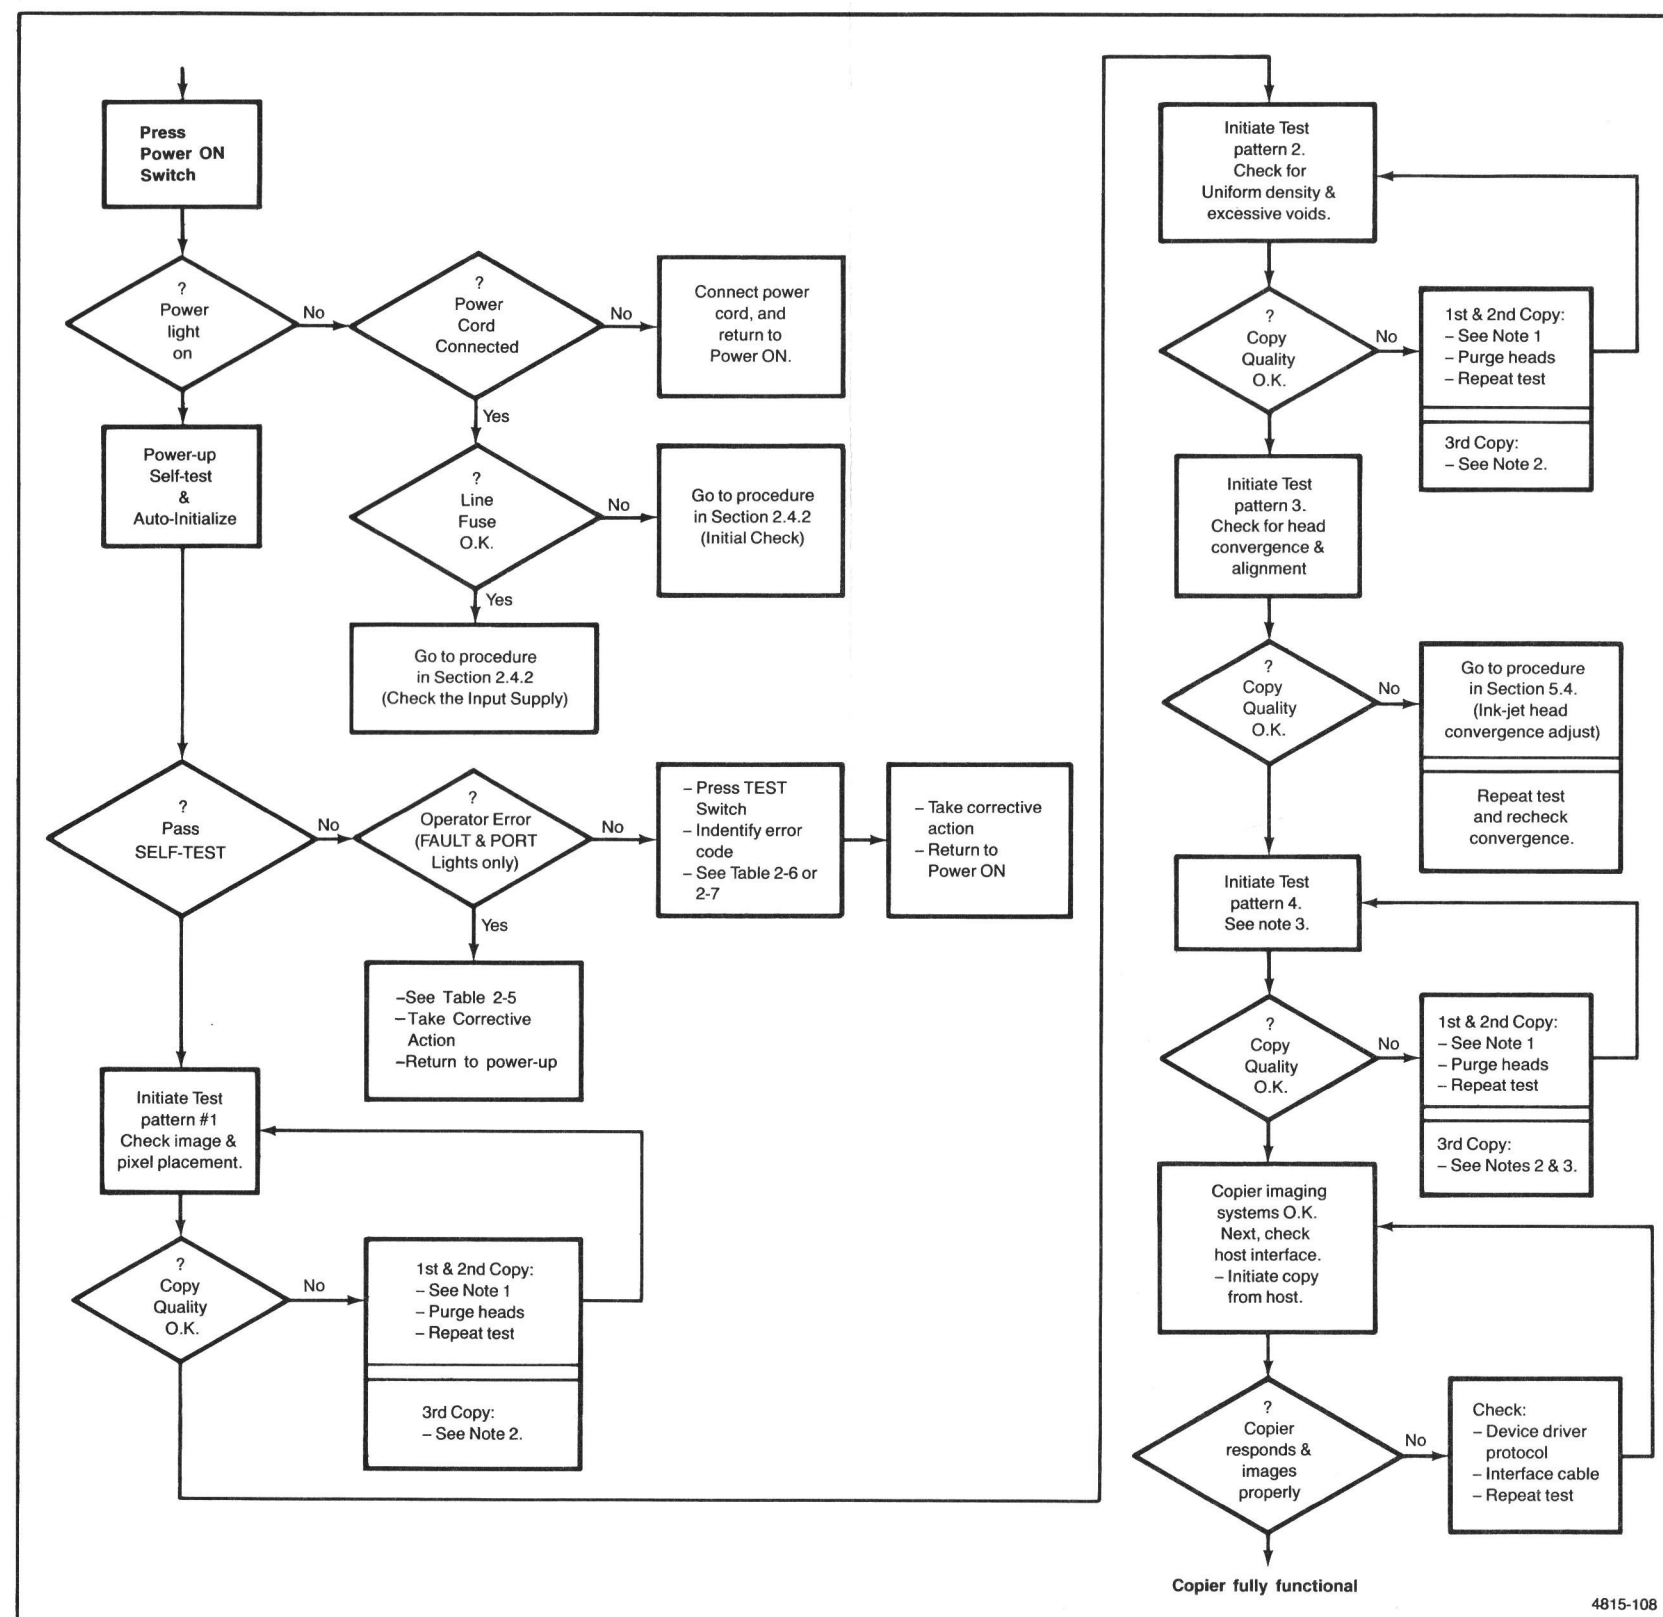

Figure 2-3. Troubleshooting Flowchart.
- A flowchart (Figure 2-3) describing an ordered approach for identifying a problem type.
The flowchart in Figure 2-3 shows a pictorial diagram of an expedient troubleshooting sequence. The events that line the left side of the illustration are the normal flow when no problems occur. The information to the right of this column identifies a sequential method for identifying the problem.